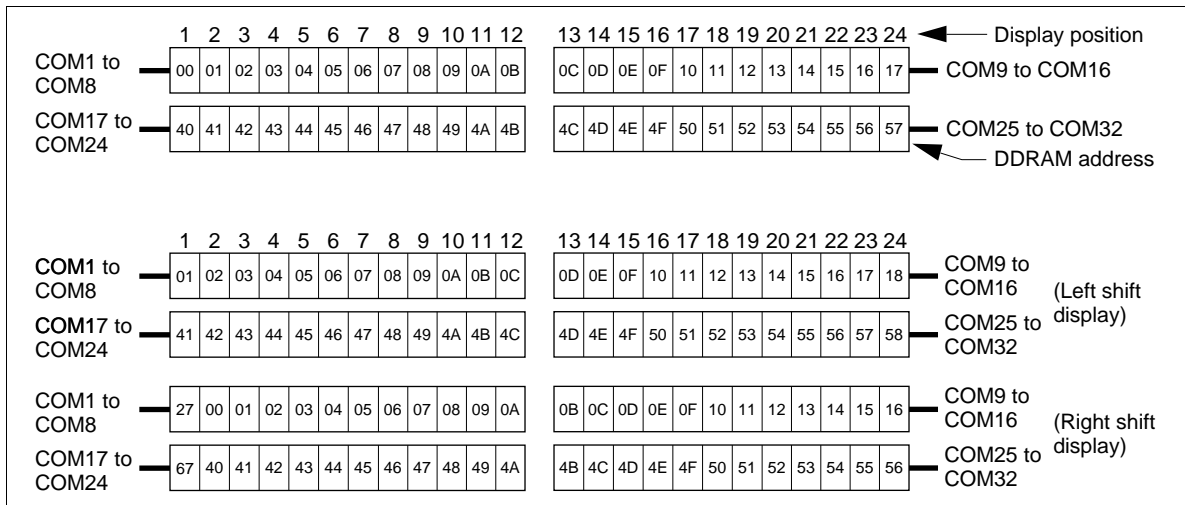
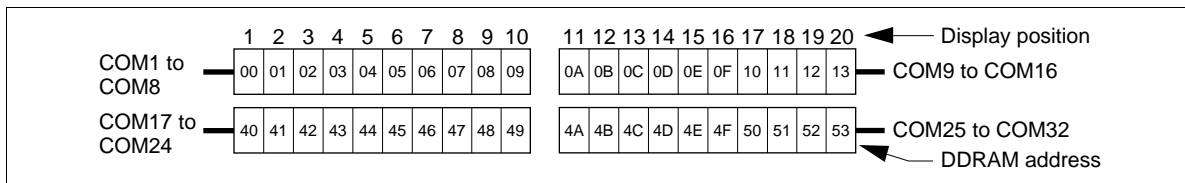

Figure 5 2-Line by 24-Character Display (5-Dot Font Width)
Figure 6 2-Line by 20-Character Display (6-Dot Font Width)
- Case 1: The first line is displayed from COM1 to COM16, and the second line is displayed from COM17 to COM32. Note that the last address of the first line and the first address of the second line are not consecutive. Figure 5 shows an example where a 5-dot font-width 24×2 -line display is performed using one HD66712. Here, COM9 to COM16 begins at (0C)H, and COM25 to COM32 at (4C)H. When a display shift is performed, the DDRAM addresses shift as shown. Figure 6 shows an example where a 6-dot font-width 20×2 -line display is performed using one HD66712. COM9 to COM16 begins at (0A)H, and COM25 to COM32 at (4A)H.